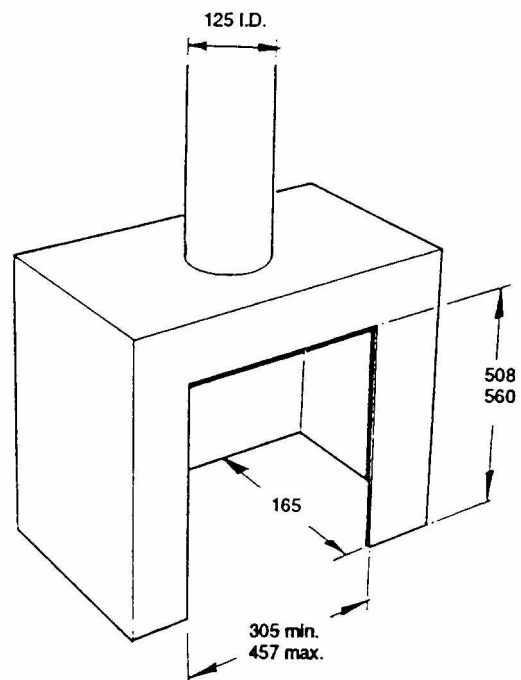

Fig. 6
2.4 TWIN-WALLED FLUES (Fig. 6)